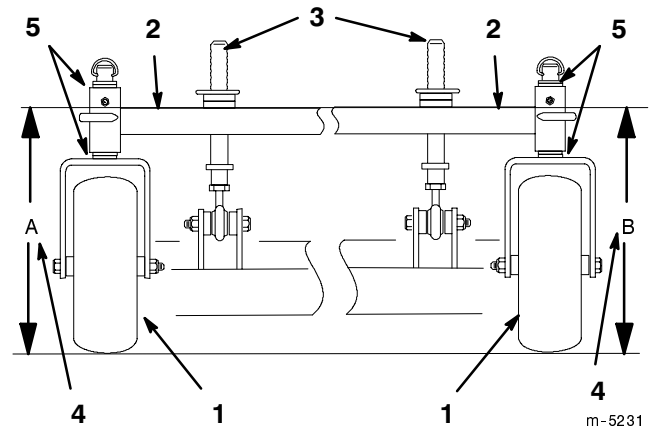

Figure 51
- Measure carrier frame height at location "A" (Fig. 51).
- Measure carrier frame height at location "B" (Fig. 51).